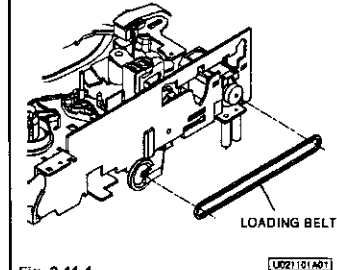

Fig. 2-11-1
- Remove the LOADING BELT shown in Fig. 2-11-1.
- Fasten the LOADING BELT shown in Fig. 2-11-1.